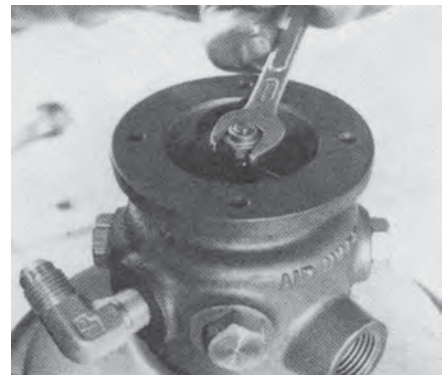
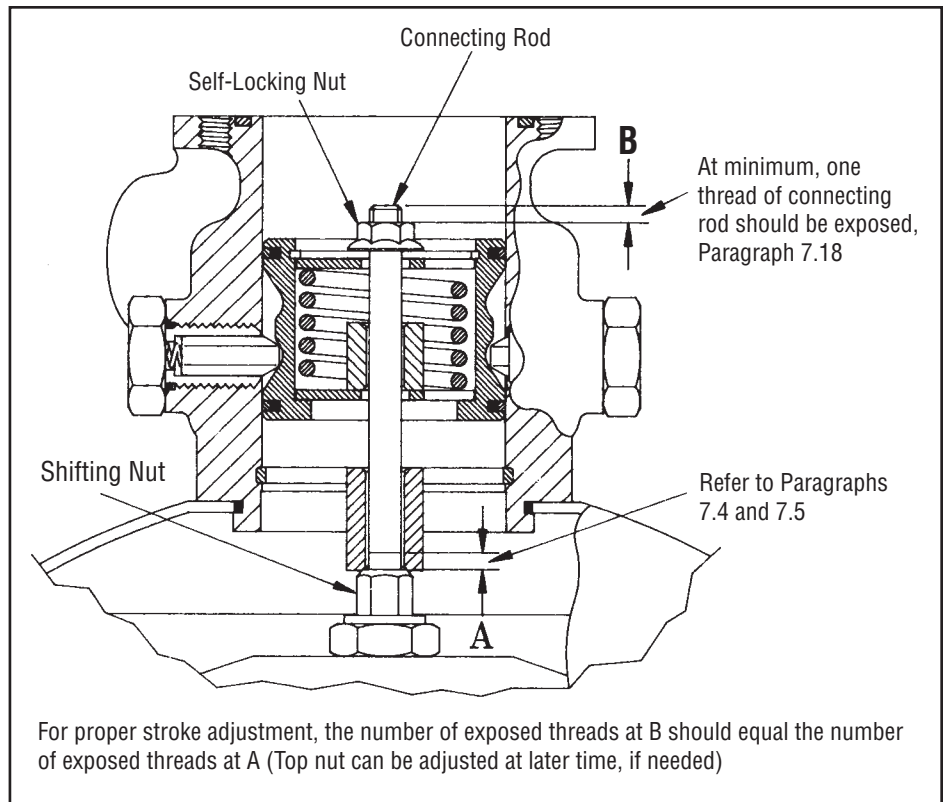

Figure 7-12 Installing self-locking nut on connecting rod.
Figure 7-13 J air valve stroke adjustment.
- 7.18 Install self-locking nut (44) on upper threaded end of connecting rod (37). See Figure 7-12. Referring to Figure 7-13 and paragraph 7.5, if no lower threads of connecting rod show above shifting nut (40), then install self-locking nut (44) with at least one upper thread of connecting rod exposed beyond the self-locking nut. Correspondingly, if one or two lower threads of connecting rod are exposed beyond the shifting nut, then install self-locking nut with a like number of connecting rod upper threads exposed beyond the lock nut.